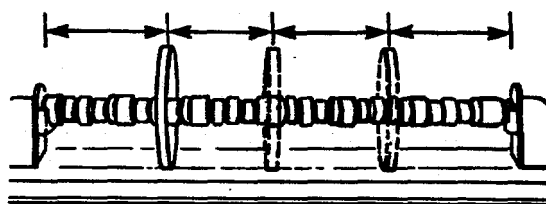

FIGURE 4-62b. Camshaft Coil Shot Check.
- (5) Apply coil shot of amperage (ampere turns) between 3600 and 4000 dc or rectified ac (FIG. 4-62b). Continuously wet area with solution.
- (6) Check the camshaft for cracks using blacklight.
- (7) Do not use camshaft if there is any of the following indications on the bearing journals: